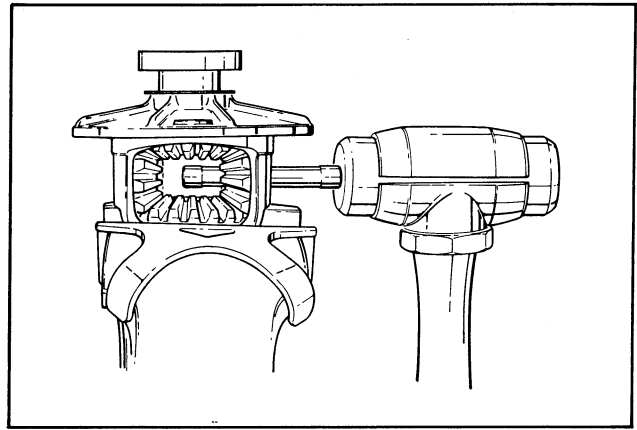

Figure 29 – Installing Pinion Mate Shaft
- a. Install thrust washers (18) behind their respective side gear (17) and install in differential case.
- b. Install thrust washers (16) and idler gears (15).
- c. Rotate idler mate gears (15) until idler gear pinion mate shaft (14) can be inserted. Use soft hammer if necessary to drive mate shaft into case. See Figure 29.